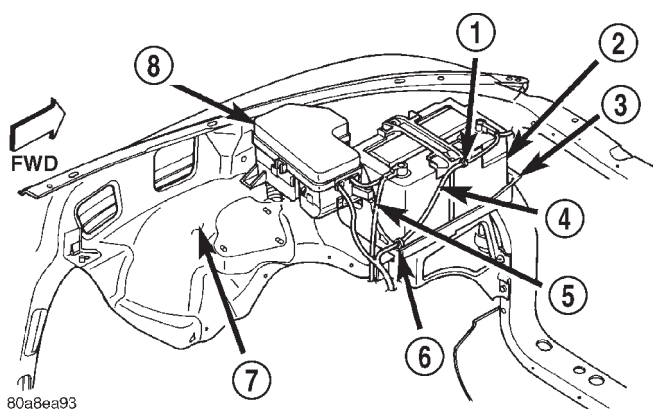

Fig. 8 Power Distribution Center
(1) Disconnect and isolate the battery negative cable.
(2) Remove the cover from the Power Distribution Center (PDC) (Fig. 8).